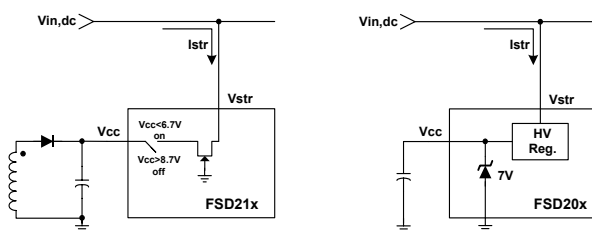

Figure 2. Internal startup circuit
**1. Startup :** At startup, an internal high voltage current source supplies the internal bias and charges the external Vcc capacitor as shown in Figure 1. In the case of the FSD210, when Vcc reaches 8.7V the device starts switching and the internal high voltage current source is disabled. The device continues to switch provided that Vcc does not drop below 6.7V. After startup the bias is supplied from the auxiliary transformer winding. In the case of FSD200, Vcc is continuously supplied from the external high voltage source and Vcc is regulated to 7V by an internal high voltage regulator (HV Reg). The internal startup switch is not disabled and an auxiliary winding is not required. Figure 2.